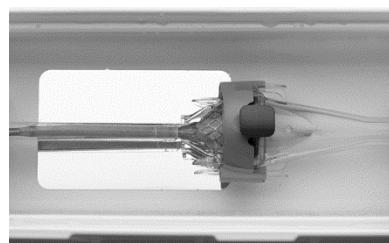

Figure 42
12. Continue to advance the capsule until it reaches the distal end of the commissure pad of the bioprosthetic (Figure 42). The capsule should completely cover the commissure pad.